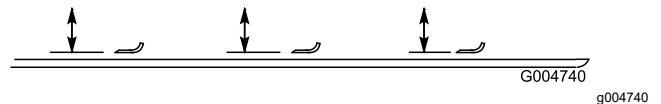

Figure 129
2. Rotate the blade until the ends face forward and backward and measure from the inside of the cutting unit to the cutting edge at the front of the blade (Figure 129).